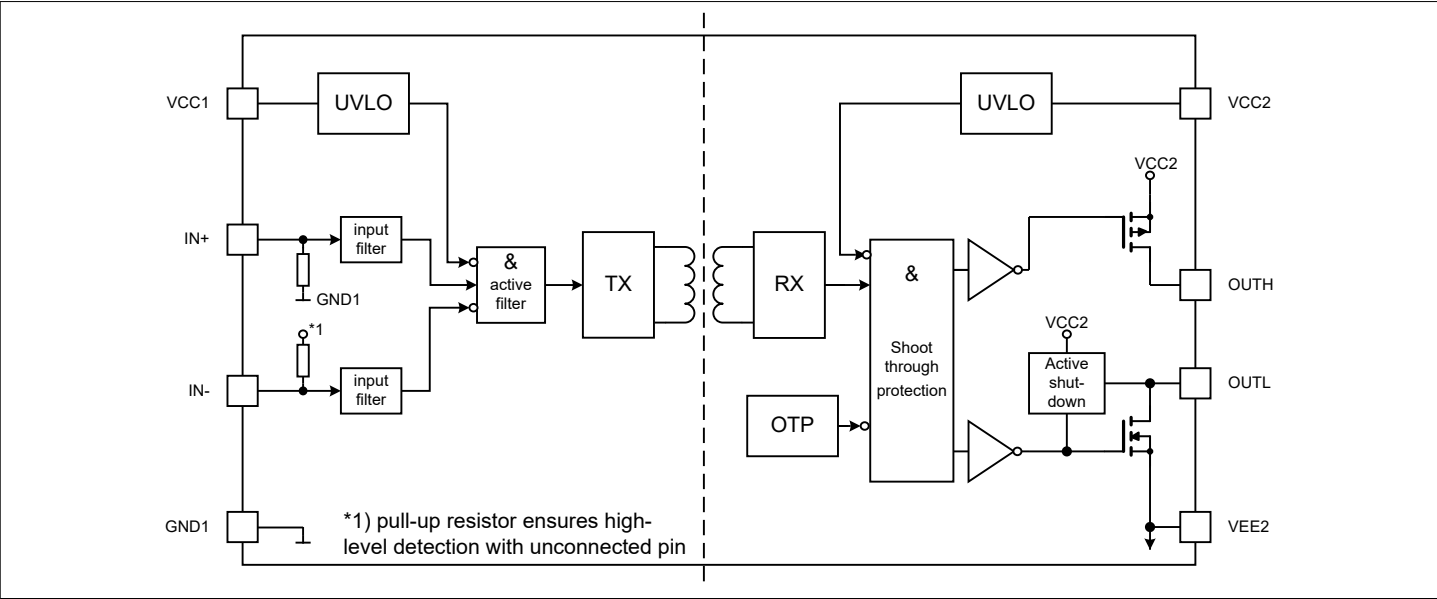

Figure 2 Block diagram for variants with separate sink and source pins (1ED3140, 1ED3141 and 1ED3142)
- IN+:** Non-inverted control signal for driver output. An internal filter provides robustness against noise at *IN+*. If left open, an internal, weak pull-down resistor pulls this pin to a low state, as shown in Figure 2
- IN-:** Inverted control signal for driver output. An internal filter provides robustness against noise at *IN-*. If left open, an internal, weak pull-up resistor pulls this pin to a high state, as shown in Figure 2